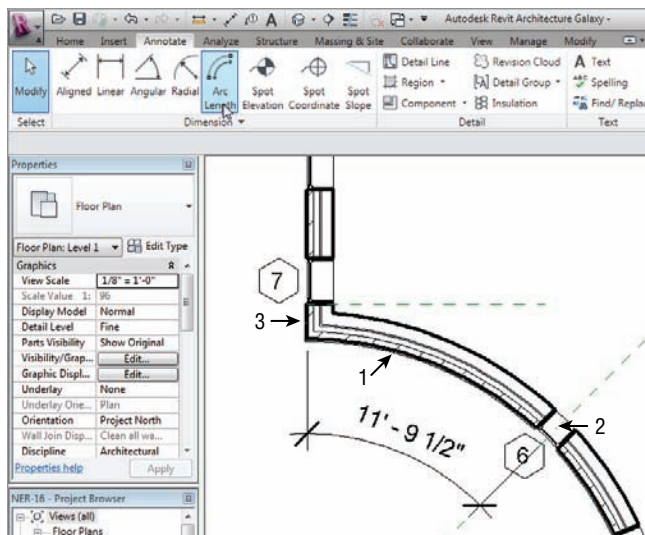

FIGURE 5.23 Placing an Arc Length dimension involves four separate picks.
1. Zoom in on the west radial entry of the west wing, as shown in Figure 5.23.
2. On the Annotate tab, select the Arc Length button, as shown at the top left of Figure 5.23.
5. Pick a point along the exterior face of brick that runs along the vertical intersecting wall, illustrated as 3 in Figure 5.23.